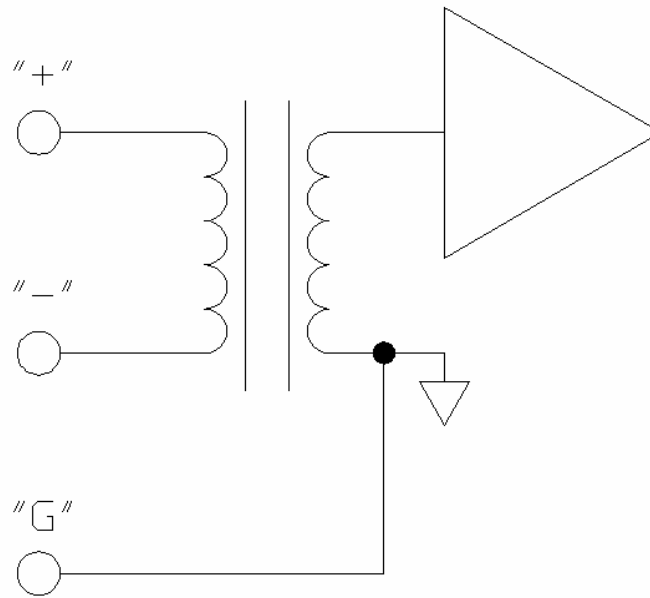

Figure 2: TEL/LINE IN Receiver Conceptual Diagram
- The **TEL/LINE IN** is a 3-pin Phoenix-type connector with removable terminal strip plug that provides balanced, line-level input of a single (monaural) audio signal to the AUDIOPHILE processor. The input circuitry is 600-ohm transformer coupled, and is designed to be compatible with both “wet” and “dry” pair telephone line connections, in addition to normal line-level audio signals from audio recording equipment, amplifiers, etc. Refer to Figure 2 for a conceptual diagram of how the rear panel input connection is coupled to the input circuitry.